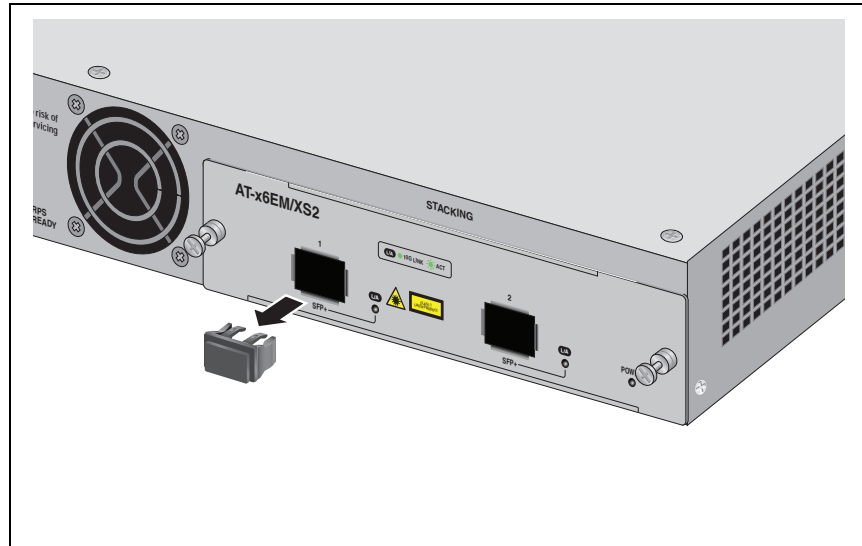

Figure 64. Removing a Dust Plug from an SFP+ Slot
1. Remove the dust plug from a transceiver slot on the switch, as shown in Figure 64.